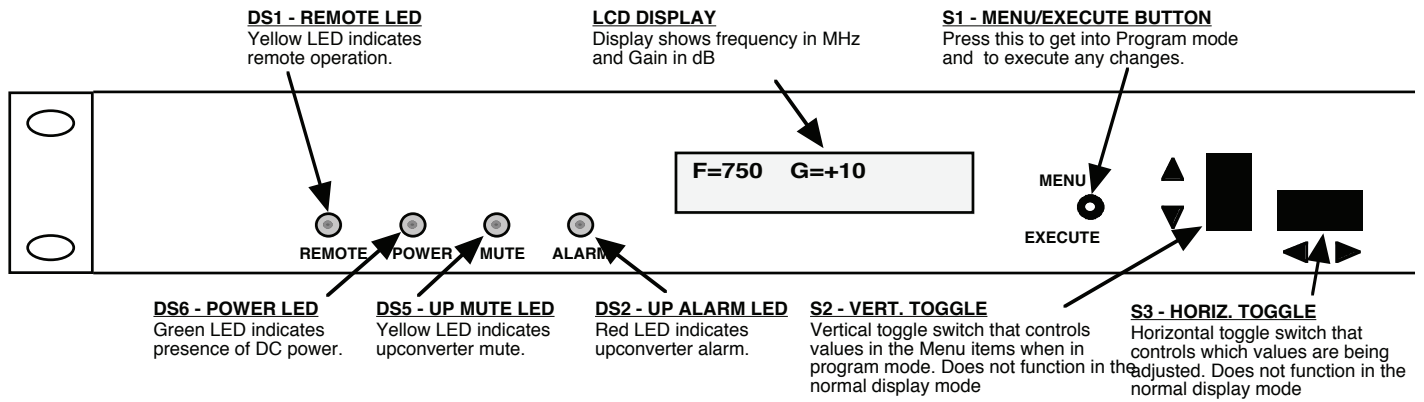

FIGURE 2.2 2015-75 Front Panel Controls and Indicators
7. Be sure DS6 (green, DC Power) is on and DS2 (red, Alarm) is off (Figure 2.2).
Alarm indications appear on the LEDs (see figure 2.2).